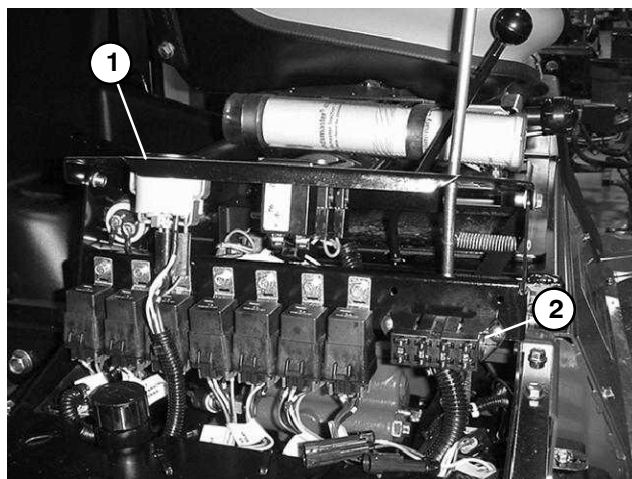
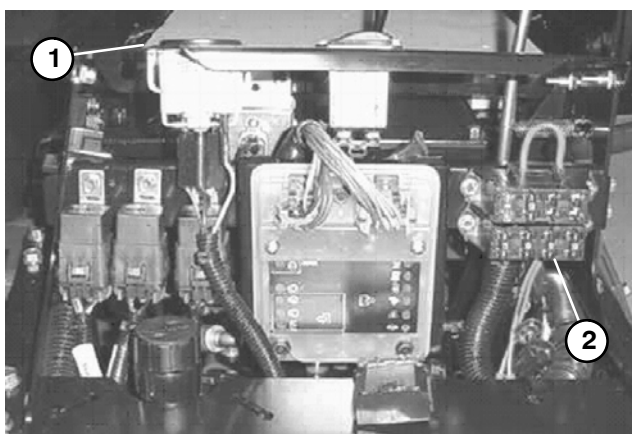

Figure 5
Figure 6
The fuse block is located under the operator's control panel. Machines with serial numbers below 220999999 have four (4) fuses (Fig. 5). Machines with serial numbers above 230000000 have six (6) fuses (Fig. 6).